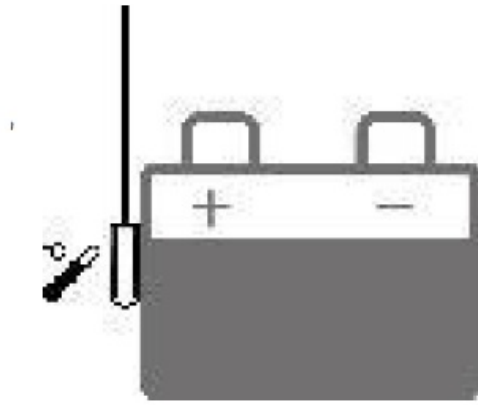

Figure 2-2 Schematic of wiring diagram
Connect the system in the order of 1 battery ② PV array ③load in accordance with Figure 2-2,